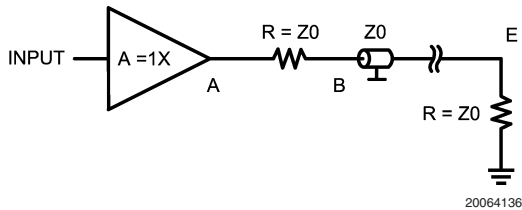
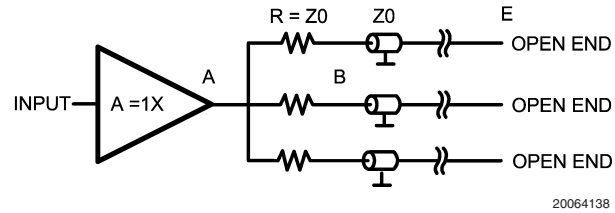
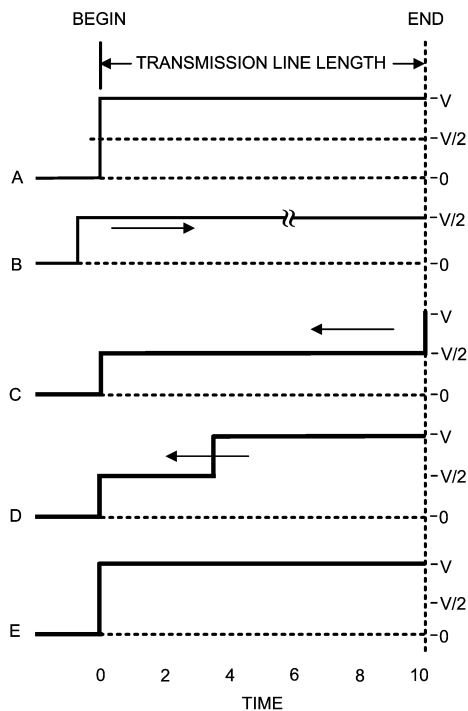

FIGURE 1.
FIGURE 3.
FIGURE 6.
- Use one buffer to drive one transmission line (see Figure 1)
- Use one buffer to drive several transmission lines each driving a different receiver. (see Figure 3)
In most cases, it is unrealistic to think that we can place a driver or buffer so close to the load that we don't need a transmission line to transport the signal. The pcb trace length between a driver and the load may affect operation depending upon the operating frequency. Sometimes it is possible to do measurements by connecting the DUT directly to the analyzer. As frequencies become higher the short lines from the DUT to the analyzer become long lines. When this happens there is a need to use transmission lines. The next point to examine is what happens when the load is connected to the transmission line. When driving a load, it is important to match the line and load impedance, otherwise reflections will occur and this phenomena will distort the signal. If a transient is applied at $T = 0$ (*Figure 6*, trace A) the resultant waveform may be observed at the start point of the transmission line. At this point (begin) on the transmission line the voltage increases to (V) and the wave front travels along the transmission line and arrives at the load at $T = 10$. At any point across along the line $I = V/Z_0$, where Z_0 is the impedance of the transmission line. For an applied transient of 2V with $Z_0 = 50\Omega$ the current from the buffer output stage is 40mA. Many vintage opamps cannot deliver this level of current because of an output current limitation of about 20mA or even less. At $T = 10$ the wave front arrives at the load. Since the load is perfectly matched to the transmission line all of the current traveling across the line will be absorbed and there will be no reflections. In this case source and load voltages are exactly the same. When the load and the transmission line have unequal values of impedance a different situation results. Remember there is another basic which says that energy cannot be lost. The power in the transmission line is $P = V^2/R$. In our example the total power is $2^2/50 = 80mW$. Assume a load of 75Ω. In that case a power of 80mW arrives at the 75Ω load and causes a voltage of the proper amplitude to maintain the incoming power.
Many applications, such as video, use a series resistance between the driver and the transmission line (see *Figure 1*). In this case the transmission line is terminated with the characteristic impedance at both ends of the line. See *Figure 6* trace B. The voltage traveling through the transmission line is half the voltage seen at the output of the buffer, because the series resistor in combination with Z_0 forms a two-to-one voltage divider. The result is a loss of 6dB. For video appli-
Another way to reach several points via a transmission line is to start several lines from one buffer output (see *Figure 3*). This is possible only if the output can deliver the needed current into the sum of all transmission lines. As can be seen in this figure there is a series termination used at the beginning of the transmission line and the end of the line has no termination. This means that only the signal at the endpoint is usable because at all other points the reflected signal will cause distortion over the line. Only at the endpoint will the measured signal be the same as at the startpoint. Referring to *Figure 6* trace C, the signal at the beginning of the line has a value of $V/2$ and at $T = 0$ this voltage starts traveling towards the end of the transmission line. Once at the endpoint the line has no termination and 100% reflection will occur. At $T = 10$ the reflection causes the signal to jump to $2V$ and to start traveling back along the line to the buffer (see *Figure 6* trace D). Once the wavefront reaches the series termination resistor, provided the termination value is Z_0 , the wavefront undergoes total absorption by the termination. This is only true if the output impedance of the buffer/driver is low in comparison to the characteristic impedance Z_0 . At
this moment the voltage in the whole transmission line has the nominal value of 2V (see *Figure 6* trace E). If the three transmission lines each have a different length the particular point in time at which the voltage at the series termination resistor jumps to 2V is different for each case. However, this transient is not transferred to the other lines because the output of the buffer is low and this transient is highly attenuated by the combination of the termination resistor and the output impedance of the buffer. A simple calculation illustrates the point. Assume that the output impedance is 5Ω. For the frequency of interest the attenuation is $V_B/V_A = 55/5 = 11$, where A and B are the points in *Figure 3*. In this case the voltage caused by the reflection is $2/11 = 0.18V$. This voltage is transferred to the remaining transmission lines in sequence and following the same rules as before this voltage is seen at the end points of those lines. The lower the output resistance the higher the decoupling between the different lines. Furthermore one can see that at the endpoint of these transmission lines there is a normal transient equal to the original transient at the beginning point. However at all other points of the transmission line there is a step voltage at different distances from the startpoint depending at what point this is measured (see trace D).